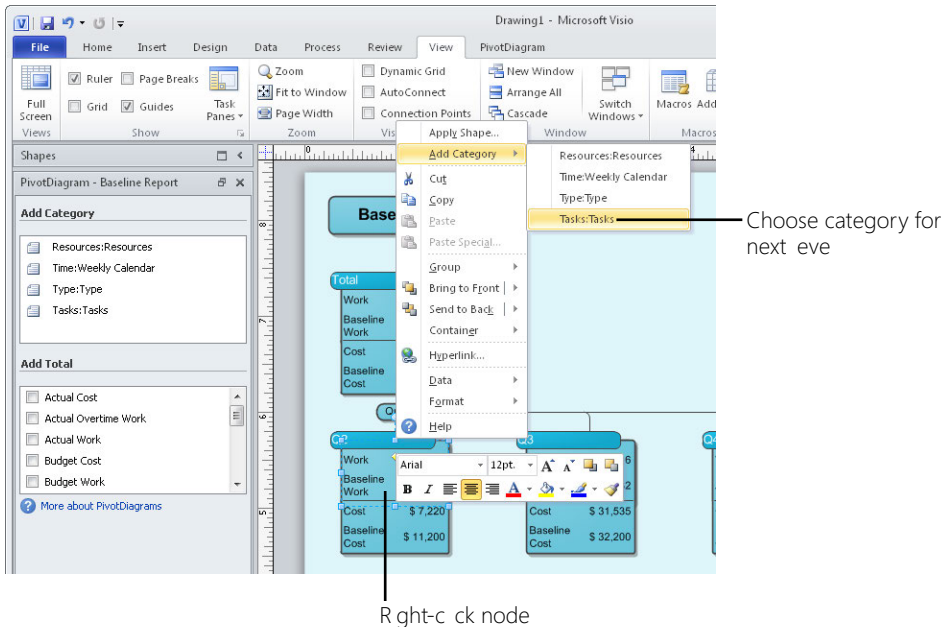

FIGURE 9-17 Add a category to a node to expand it to show more detail.
- Categorize** To expand a node to show more detail, you add a category to that node. Right-click the node, and then choose Add Category. On the submenu, choose Resources:Resources, Time:Weekly Calendar, Type:Type, or Tasks:Tasks, as shown in Figure 9-17. For example, if the first level is categorized by tasks, you can add additional levels with the category Tasks:Tasks to build a work breakdown structure (WBS) diagram. You can also add a category by selecting the node and then clicking the category in the Add Category section of the PivotDiagram task pane to the left of the pivot diagram.